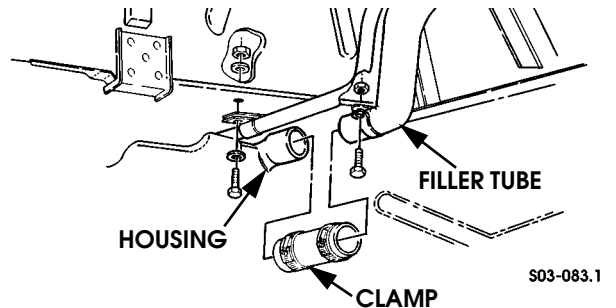

Figure 3-30: Filler Tube-to-Tank Attachment
6. Loosen clamps securing connecting hose to filler tube and housing (Figure 3-30).